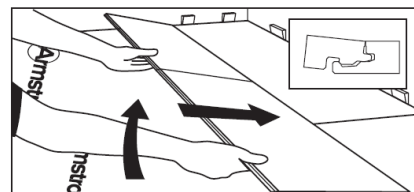

Fig. 14
4. Angle up and push forward until the boards lock together (**Fig. 14**).